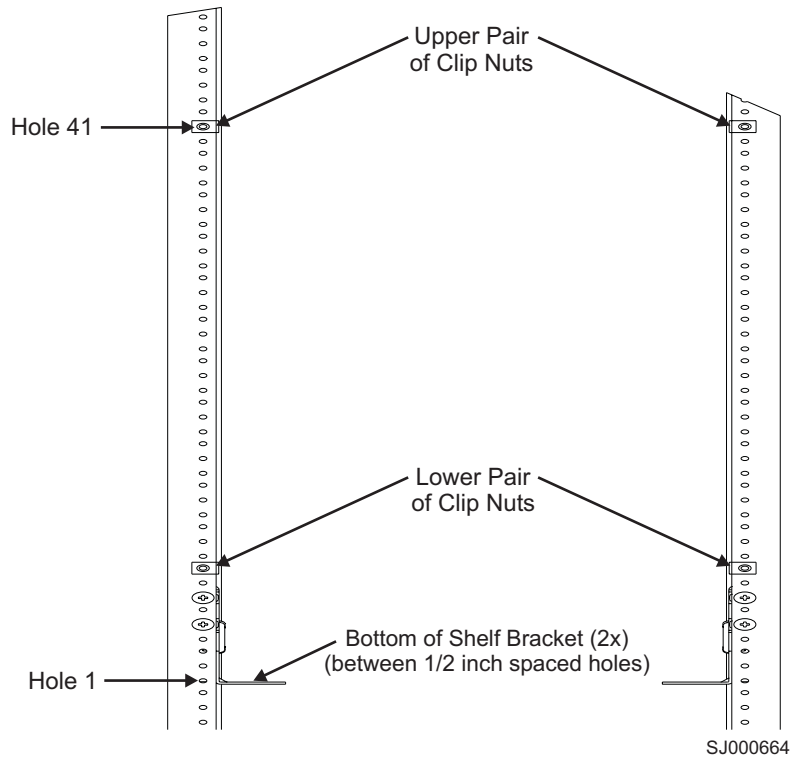

Figure 25. Placing the clip nuts on the rear rails (service aisle side)
4. Attach four 10–32 clip nuts to the two rails at the front of the cabinet (service aisle side). See Figure 25 on page 38.